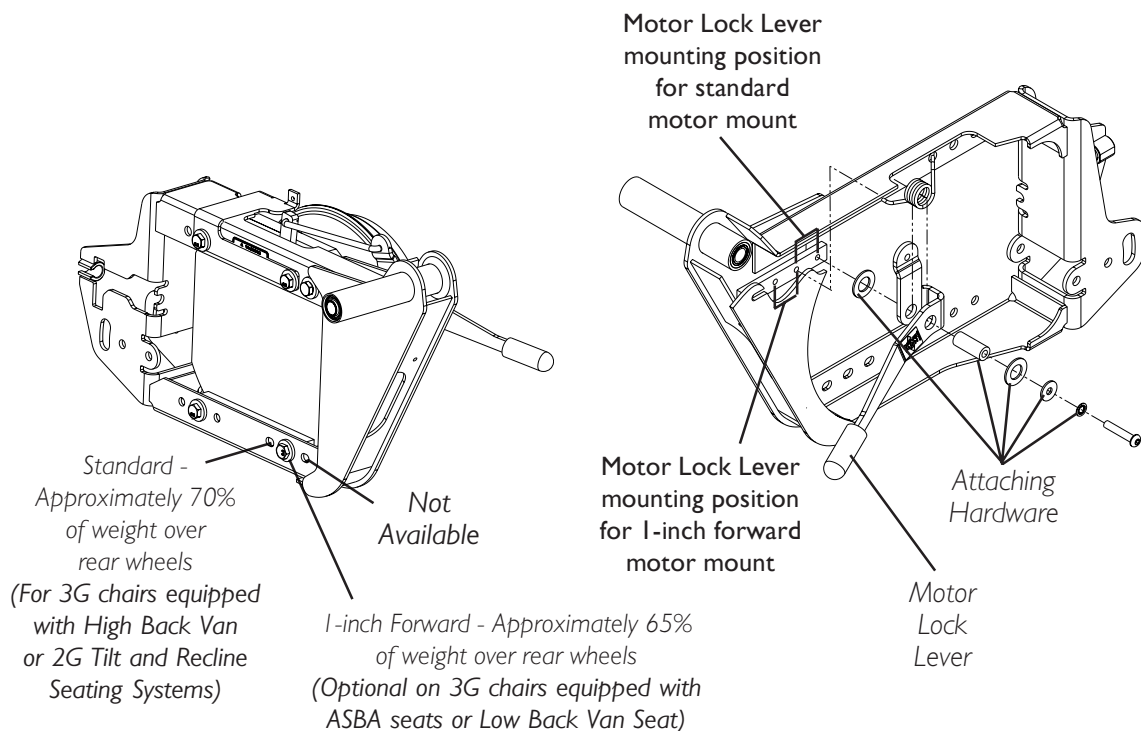

FIGURE 14 - REPOSITIONING THE MOTOR - REPOSITIONING THE HEAVY DUTY GEARLESS/BRUSHLESS MOTOR
REPOSITIONING THE HEAVY DUTY GEARLESS/BRUSHLESS MOTOR (FIGURE 14)
4. Reposition motor lock lever to mounting hole corresponding with motor mount location. Mounting position shown in FIGURE 14 is for the standard mounting position for the motor. Moving the motor lock lever one position forward would correspond with the one inch forward motor mounting position.